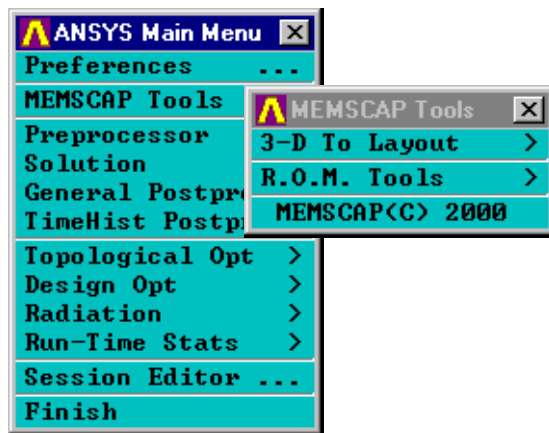

Figure 2: Accessing the **MEMSCAP Tools** menu
- ☒ You can access the **3-D to Layout** menu through the ANSYS Main Menu by selecting **MEMSCAP Tools > 3-D to Layout** (Figure 2).